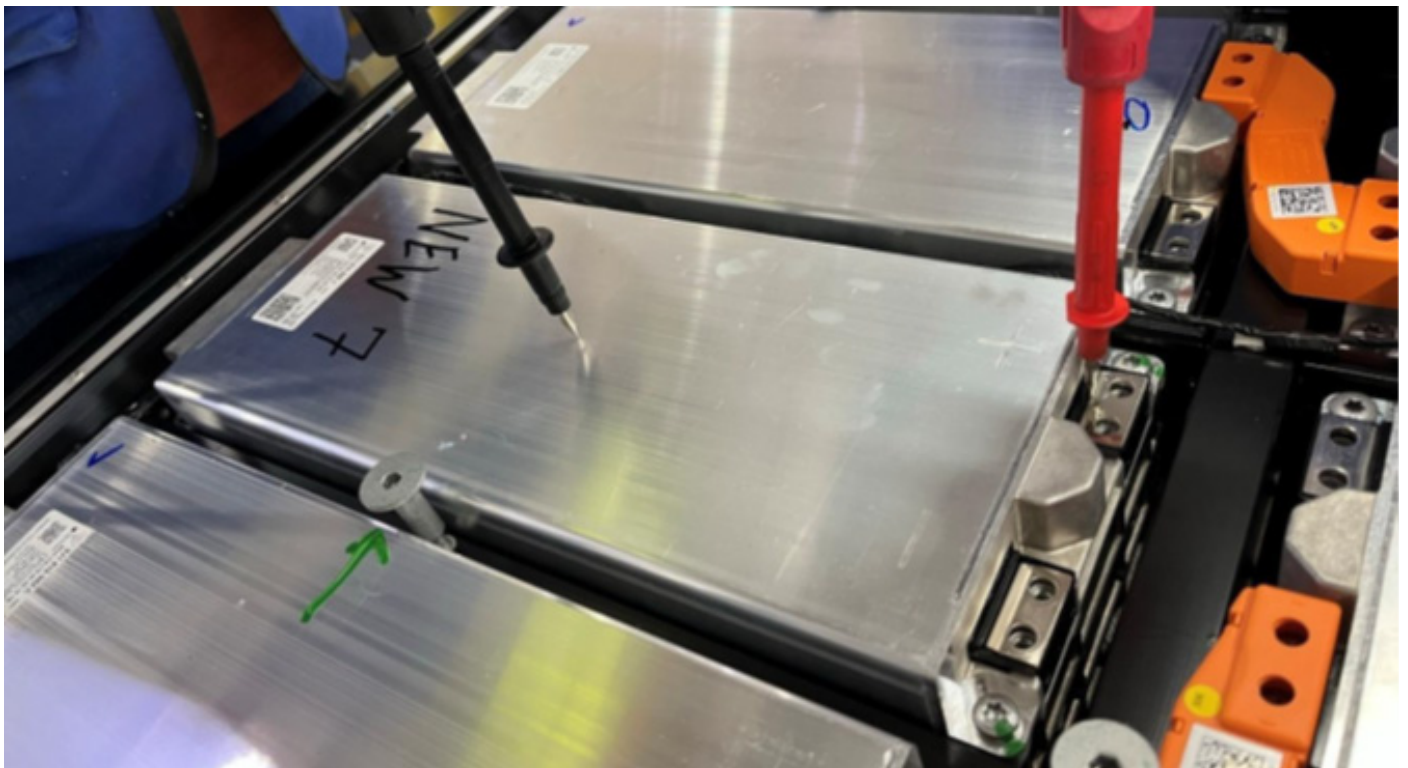

Figure 6 - IR Test at Positive Terminal
- When IR testing a module on the positive terminal: Contact the positive terminal with the red test probe as shown in *Figure 6*.
Module IR Testing Procedure: Positive Terminal (Figure 6)